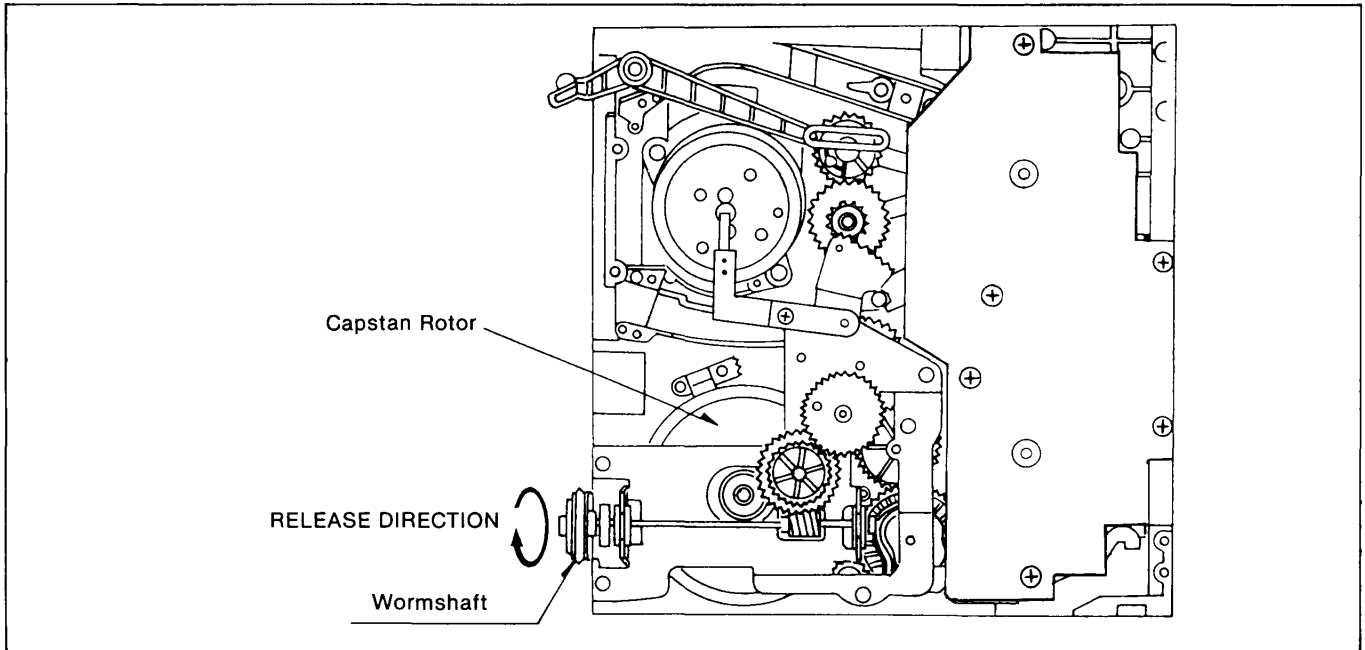

Figure M3
2. Release the direction as shown in Figure M3.